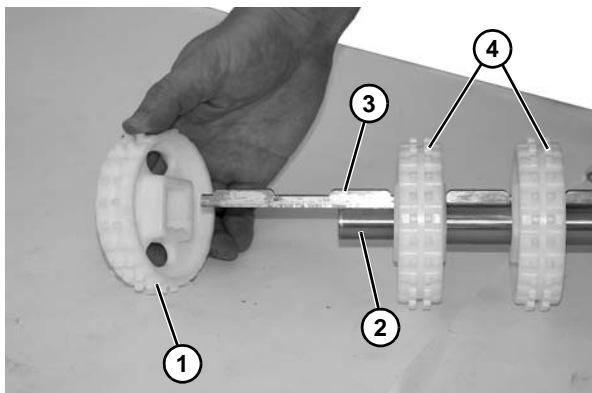

Figure 48
- Slide entire sprocket assembly slightly outward, and remove the first sprocket (**Figure 48, item 1**) off the drive spindle (**Figure 48, item 2**) and alignment bar (**Figure 48, item 3**).
- Remove remaining sprockets (**Figure 48, item 4**) off the alignment bar as you slide entire assembly off the drive spindle.
- Install second sprocket and subsequent sprockets (**Figure 48, item 4**) one by one, while sliding entire assembly onto alignment bar (**Figure 48, item 3**) and spindle (**Figure 48, item 2**).